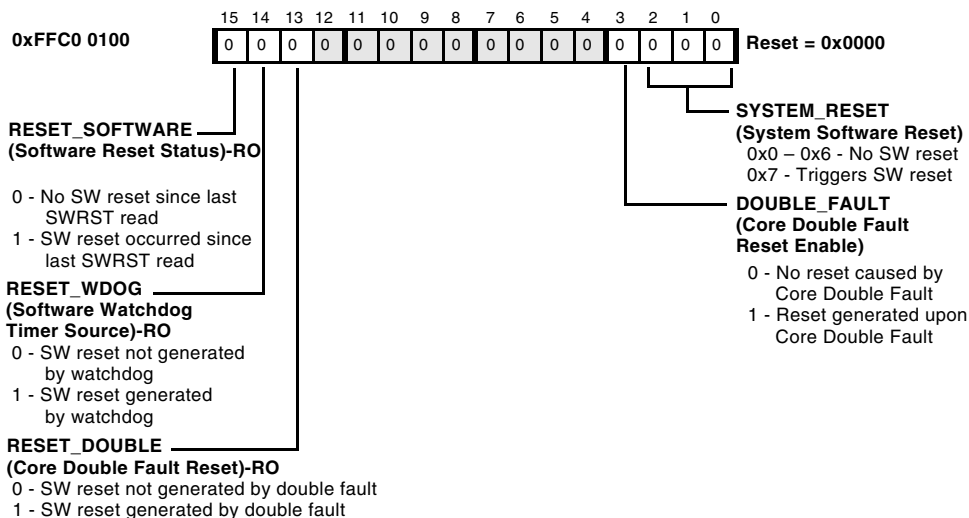

Figure 3-2. Software Reset Register
- By setting the System Reset field in the Software Reset register (see Figure 3-2 on page 3-16)